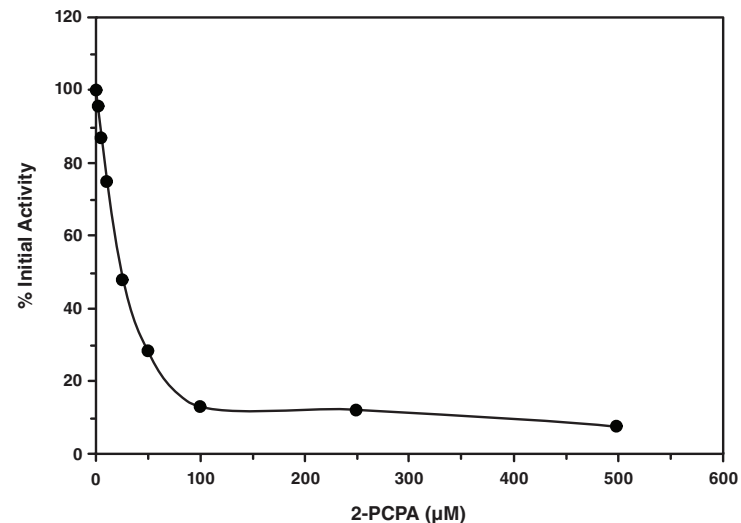

Figure 3. Inhibition of LSD1 by 2-PCPA ($IC_{50} = 22 \mu\text{M}$)
4. Either graph the Percent Inhibition or Percent Initial Activity as a function of the inhibitor concentration to determine the IC_{50} value (concentration at which there was 50% inhibition). An example of LSD1 inhibition by *trans*-2-phenylcyclopropylamine (2-PCPA, Item No. 10010494), is shown in Figure 3 on page 11.^{9,10}